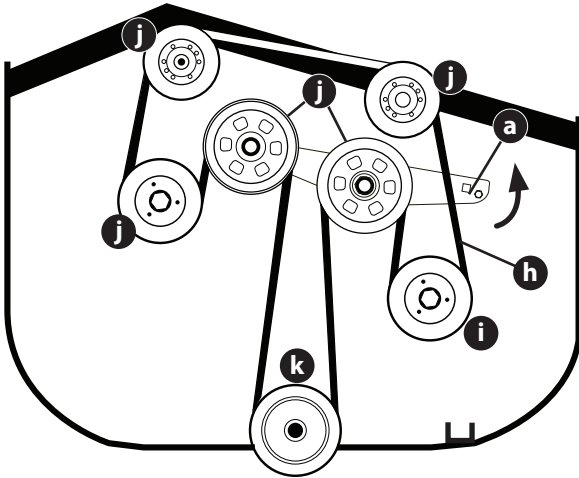

Fig. 42
- Using a 1/2" (12.7 mm) drive in the idler pulley bracket (a), turn the wrench towards the front of the mower and slide the PTO drive belt (h) off the right spindle pulley (i) (Fig. 42).
- While holding the idler pulley bracket, loosen the PTO deck belt from around the pulleys (j) and PTO clutch (k) and slide the belt away from the pulleys (Fig. 42).